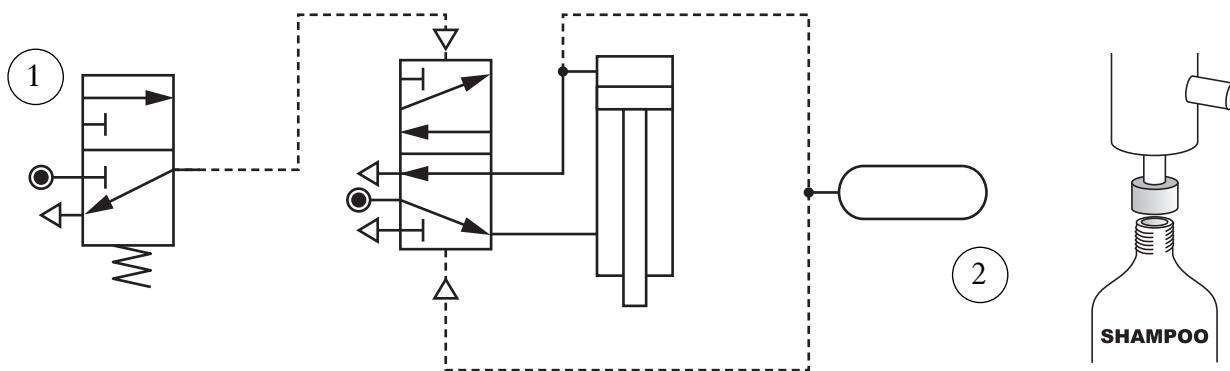

Figure Q11(a)
11. Figure Q11(a) shows an incomplete pneumatic circuit used to fix tops on shampoo bottles.
- (b) (i) Sketch on Figure Q11(a) the pneumatic device that will create an **adjustable** time delay after the piston outstrokes.